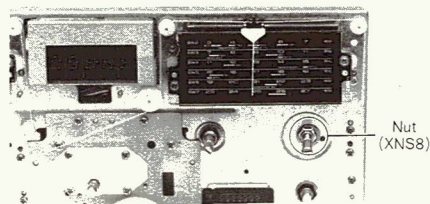

Fig. 19
4. Remove the one (1) nut for the switch shaft, as shown in fig. 19.